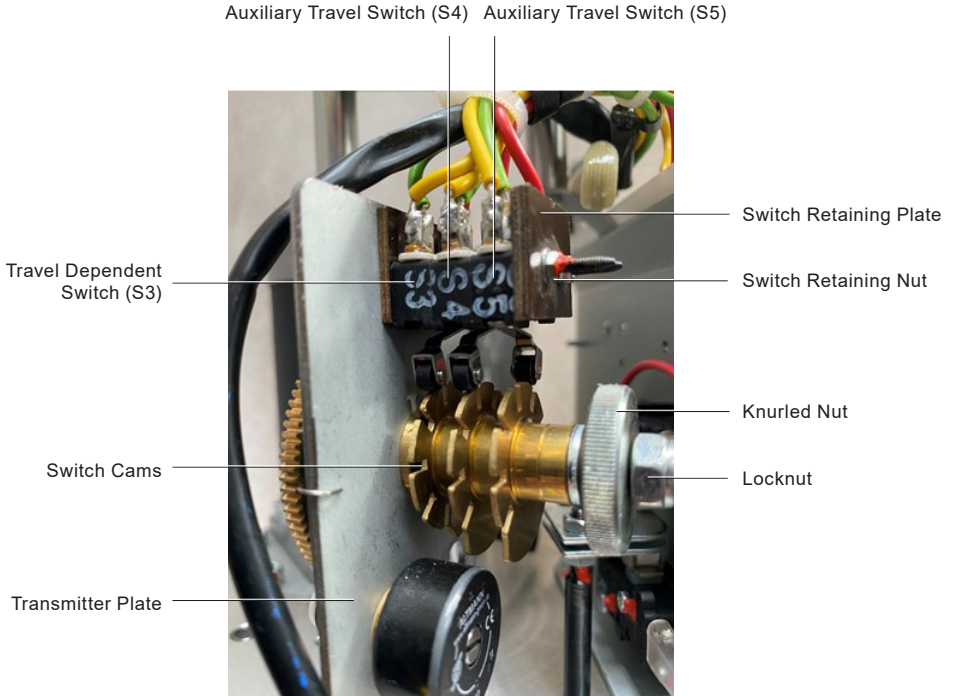

Fig. 10 Auxiliary Travel Switch (WE) Arrangement (8 kN+)
- Refer to Figure 10 for product orientation